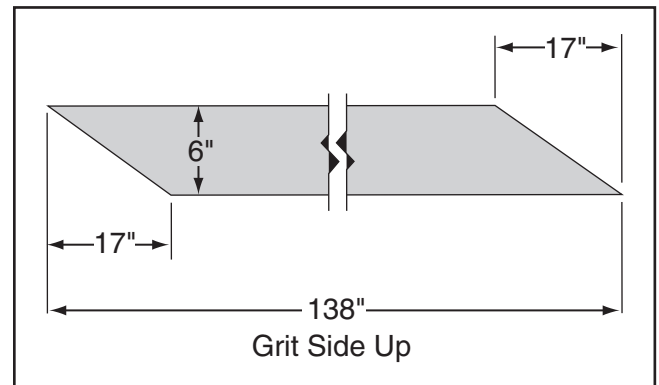

Figure 34. Sandpaper pattern.
6. Unwind old sandpaper and use it as a pattern, or use pattern in **Figure 34** to cut sandpaper to the necessary shape.